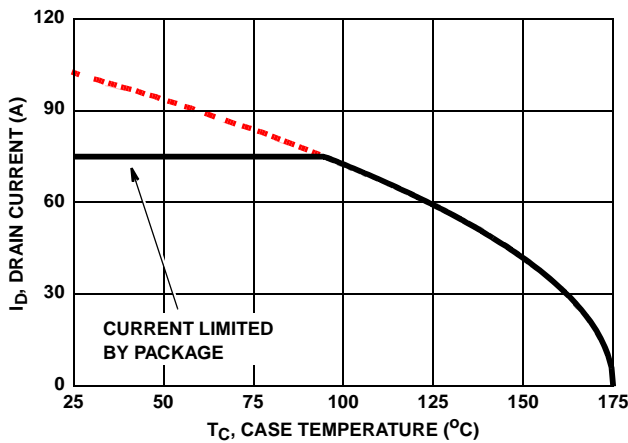

FIGURE 9. MAXIMUM CONTINUOUS DRAIN CURRENT vs CASE TEMPERATURE
**NOTE:** Calculated continuous current based on maximum allowable junction temperature. Package limited to 75A continuous, see Figure 9.